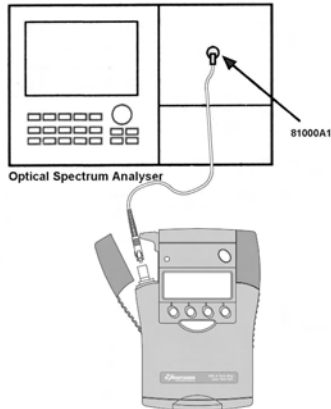

Figure 7. Test set-up for centre wavelength and spectral bandwidth test
1. Connect the equipment as shown in Figure 7.